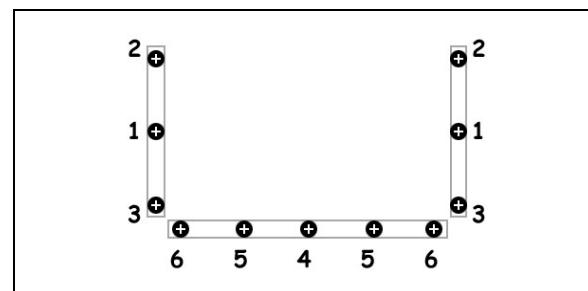

FIGURE 67: CORRECT TIGHTENING SEQUENCE
- While a helper is pressing on the window from outside, install the awning window clamping frame and tighten screws according to the sequence shown in FIGURE 67.